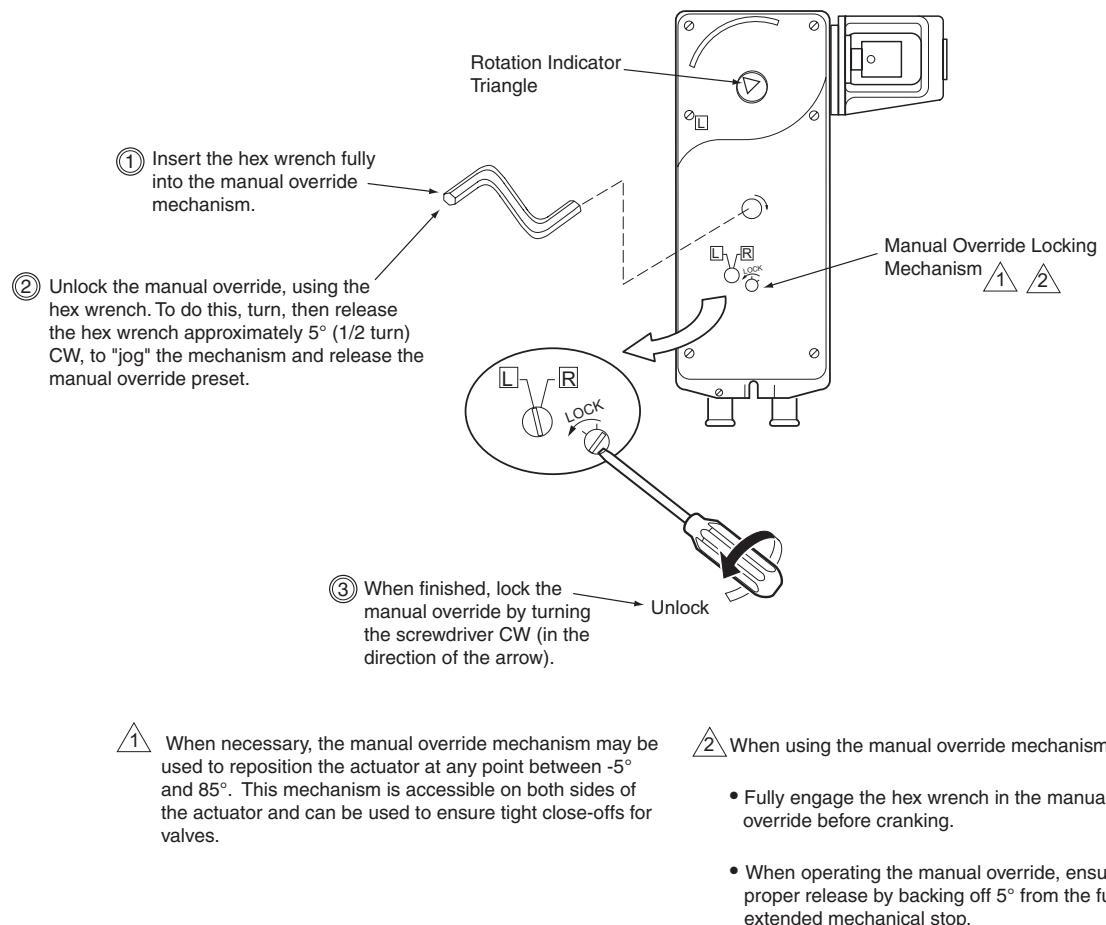

Figure 18. Manual Override
- e. Ensure 15° or 1½ turns of manual override for actuator preload. See Figure 18.
- d. Ensure 15° or 1½ turns of manual override actuator preload. See Figure 18.
- e. Insert the hex wrench into manual override and crank to extend the actuator rack to its fully extended position, back off 1½ turn, and lock (see Figure 18). Remove hex wrench to prevent accidental spring return of the actuator.